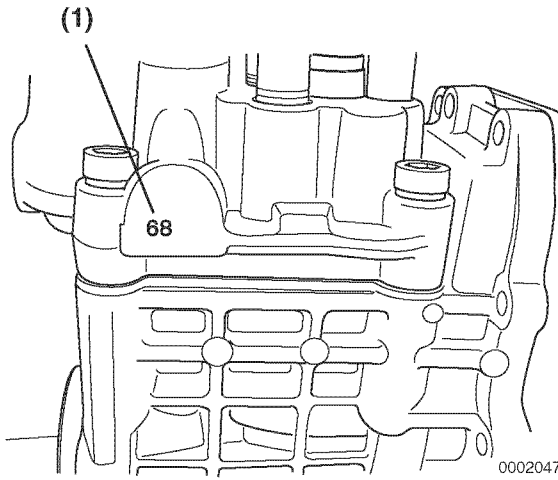

Figure 7-26
- Calculate the difference between the timing index numbers (**Figure 7-26, (1)**) of the fuel injection pump that you removed and the replacement fuel injection pump. See *Calculation Example below*.